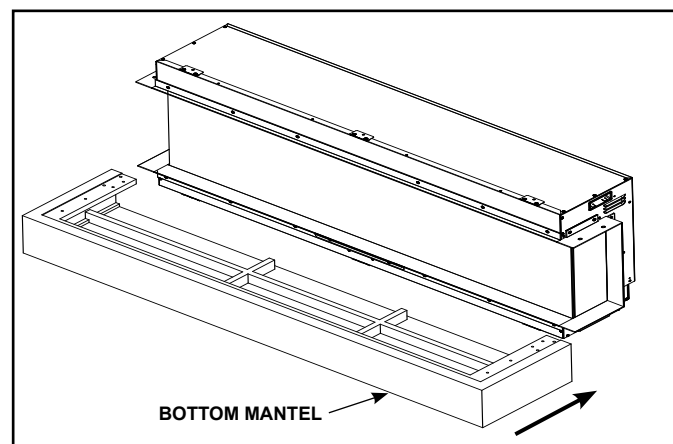

Figure 12
4. Position the bottom mantel between the bottom two-inch (51 mm) trim and the bottom brackets and slide into place. See Figure 12.